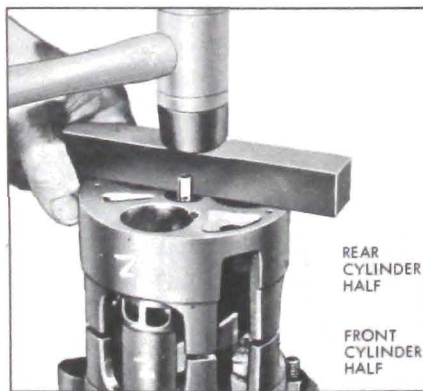

Figure 11-128—Assembling Rear Cylinder Half
11. Align rear cylinder half casting with bores, suction passage, discharge crossover holes, dowel pins, etc. Tap into place, using a wood block and mallet. See Figure 11-128.